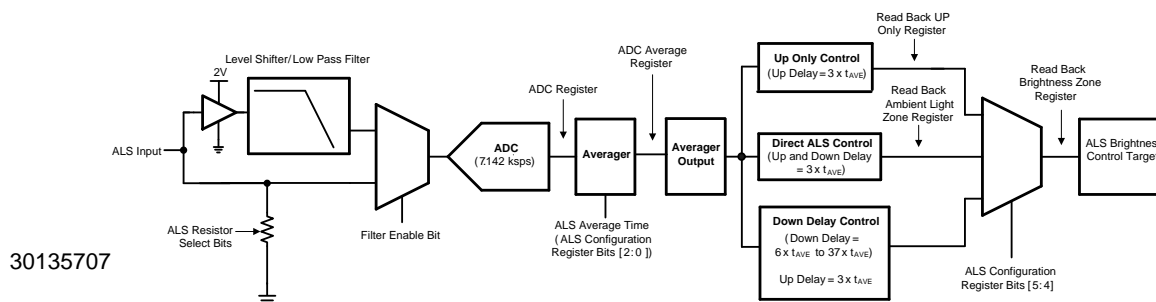
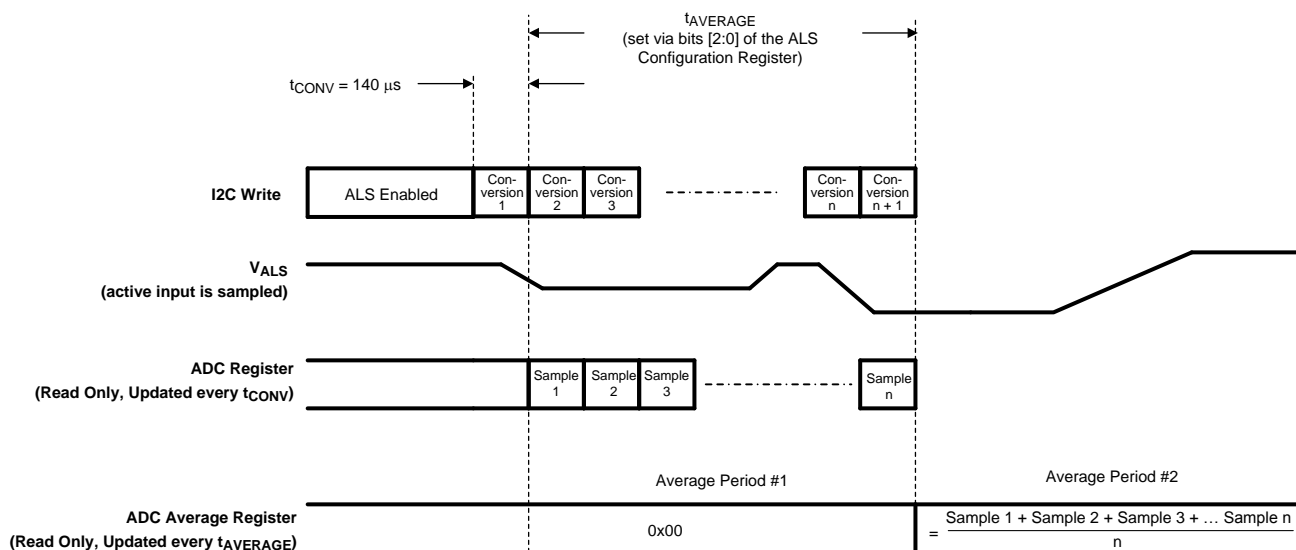

Figure 45. Ambient Light Sensing Block Diagram
Figure 46. ADC Timing
Figure 45 shows the functional block diagram of the LM3533's ambient light sensor (ALS) interface.
The LM3533 digitizes the ALS voltage using an internal 8-bit ADC. The ADC is active as long as the ALS enable bit is set. Once set, the ADC begins sampling and converting the voltage at the ALS input at 7.142ksps. The ADC output can be read back via the ADC register (address 0x37). With the ALS enable bit set, the ADC register is updated every 140µs. Figure 46 details the timing of the ADC.
Once digitized the output of the ADC is sent into the ALS averager. The averager will compute the average of the number of samples taken over the programmed average period. The ALS average times are set via bits [5:3] in the ALS Configuration Register. The output of the ALS average can be read back via the ADC Average register (address 0x38). With the ALS Enable bit set, the ADC Average register is updated after each average period (see Figure 46). After every average period the Averager Output stores the information for which brightness zone the ALS input voltage resides in (see Figure 45).
5. The Averager Output (see Figure 45) contains the zone that is determined from the most recent full average period.